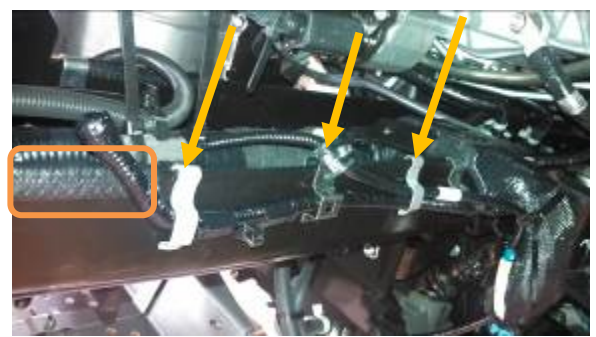

Figure 18 – Spring Clips and Edge Protector
6. Route the extension harness along the chassis frame securing into place with the two (2) metal spring clips and the harness chassis clip (see Figure 18).
7. Band clip/zip tie remaining points and insert the edge protector (see Figure 18).